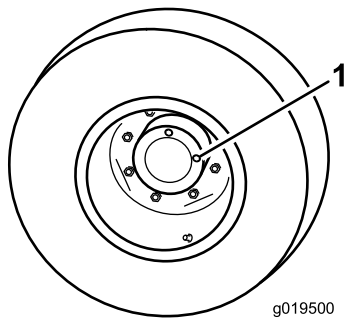

Figure 62
1. With machine on level surface, position the wheel so one check plug (Figure 62) is at the 12 o'clock position and the other is at 3 o'clock position.
1. Check plug (2)
2. Remove the plug at the 3 o'clock position (Figure 62). Oil level should be at the bottom of the check plug hole.